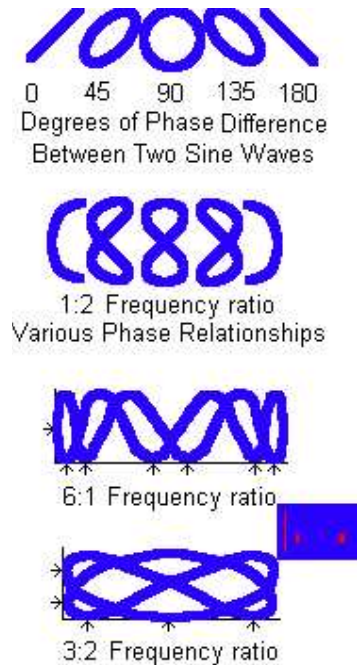

FIGURE 12
Some typical results are shown in Fig 12.
- Some typical results are shown in Fig 12.